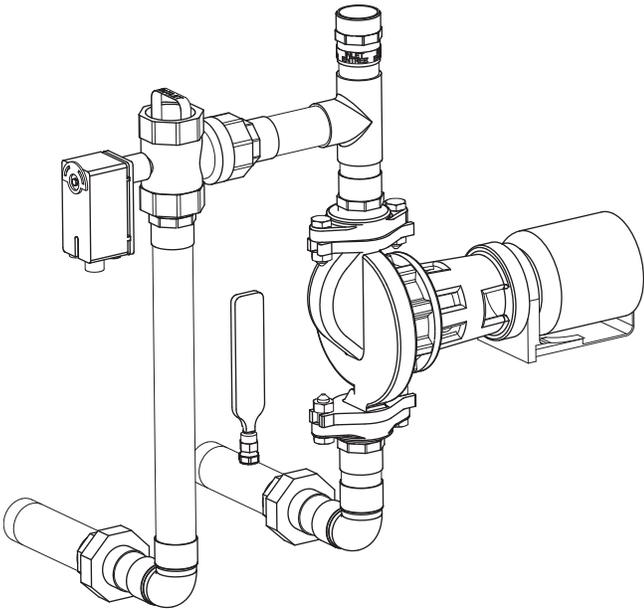

Fig. 1: Cold Water Start Assembly
**NOTE:** After testing at the factory it may be prudent to ship the piping assembly disassembled and attached to the heater pallet. This is done to avoid shipping damage and it must be reassembled on the jobsite. Use Fig. 1 to assist in reassembling the piping.